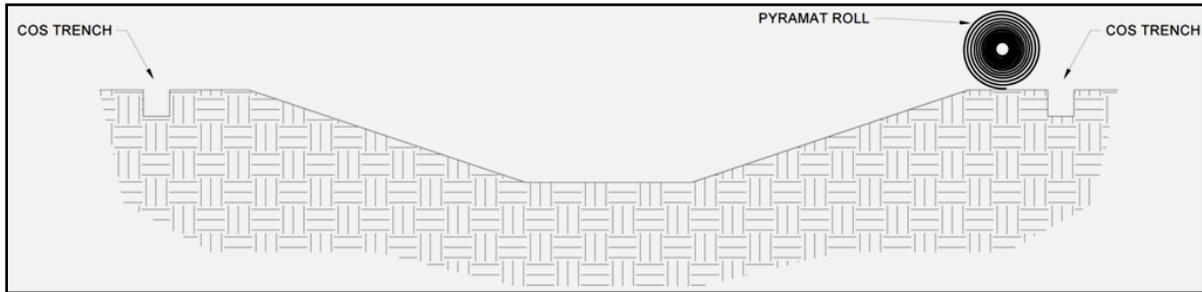
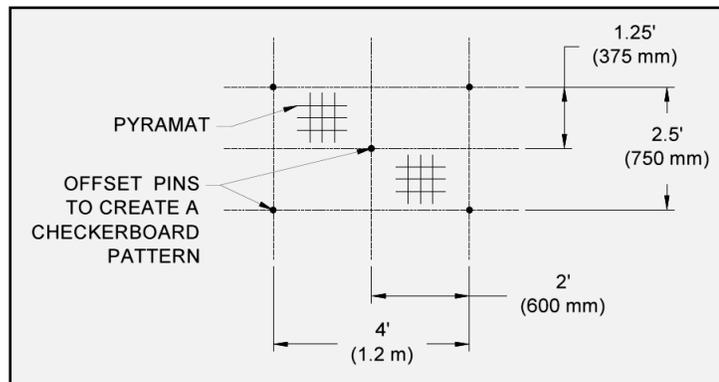
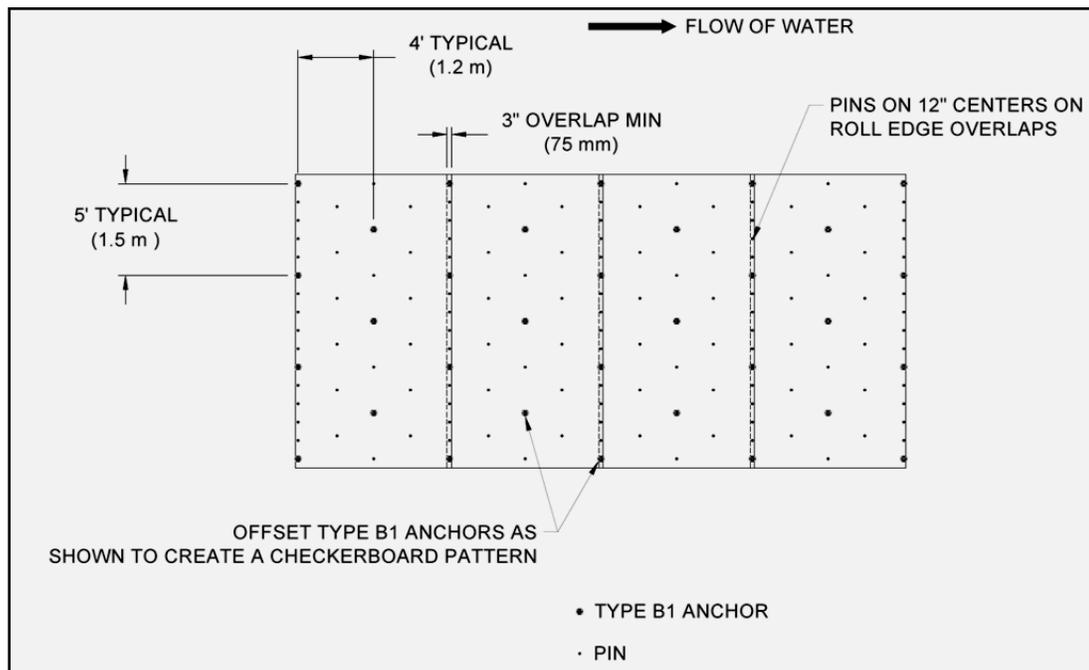

Figure 17: Crest of Slope (COS) Trench Alignment
Figure 20: Example Pin Pattern
Figure 21: Example PDEA Pattern - 0.5 Anchors/Yd2
6. Place the next Pyramat panel by laying the Pyramat roll so that the roll end points towards the COS trench (Figure 17), with a 3 inch (75 mm) overlap created at adjacent panel edge locations. Ensure that adjacent panel edges maintain a minimum 3 inch (75 mm) overlap during *Pyramat Laydown*. (Figure 21)
- Secure Pyramat panels in place using pins and PDEAs across the channel surface according to the project's engineered design. Pin and PDEA placement should reflect a staggered checkerboard pattern across the channel surface for best results (Figure 20 and Figure 21).
- Roll edges shall be overlapped a minimum of 3 in (75 mm) with pins placed on 12 in (300 mm) centers in between PDEAs on 4 ft (1.2 m) centers (Figure 21).